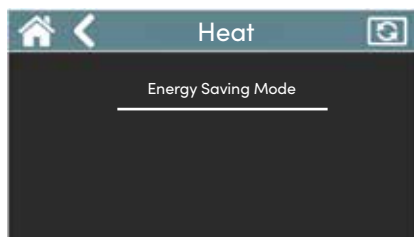

Figure 1
-  Press to Display the Energy Saving Mode screen Figure 1.